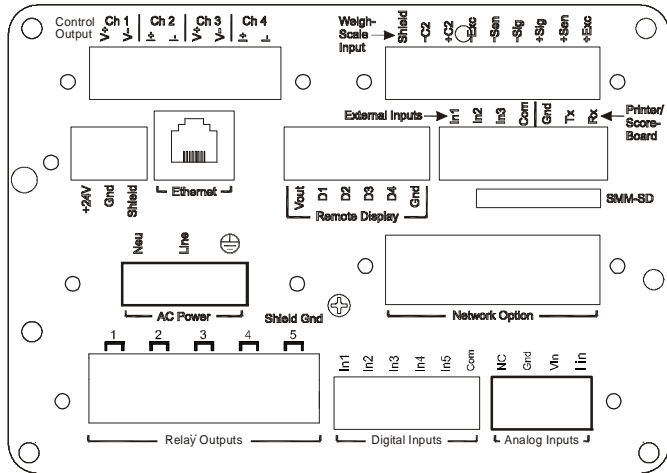

FIG. 5 REAR PANEL
- Step 1. Snap the DIN rail mounting feet into any of the two holes on the front panel of the electronic enclosure. (See Figs. 5 & 6)